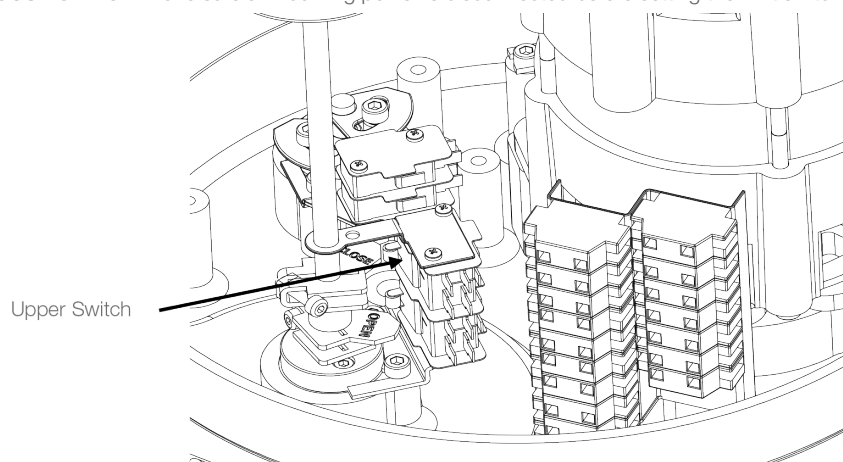

Figure 1: Close Cam Setting
- Rotate the CLOSE cam towards CW limit switch level until the switch 'clicks' (see Figure 1)